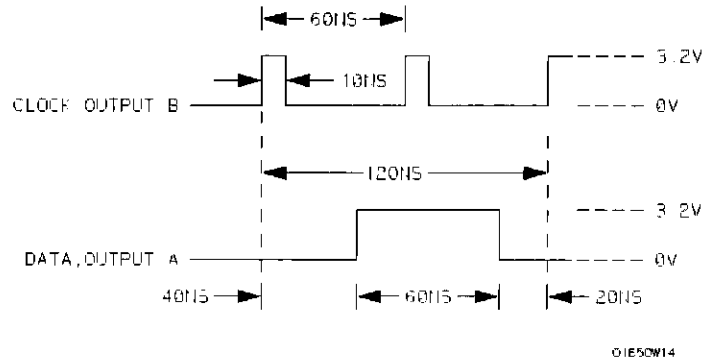

Figure 3-26. Waveform for Data Test 6
2. Adjust pulse generator for the output in figure 3-26.